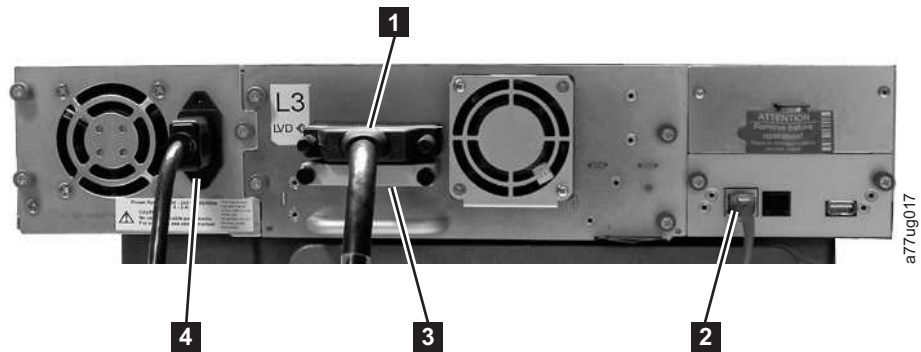
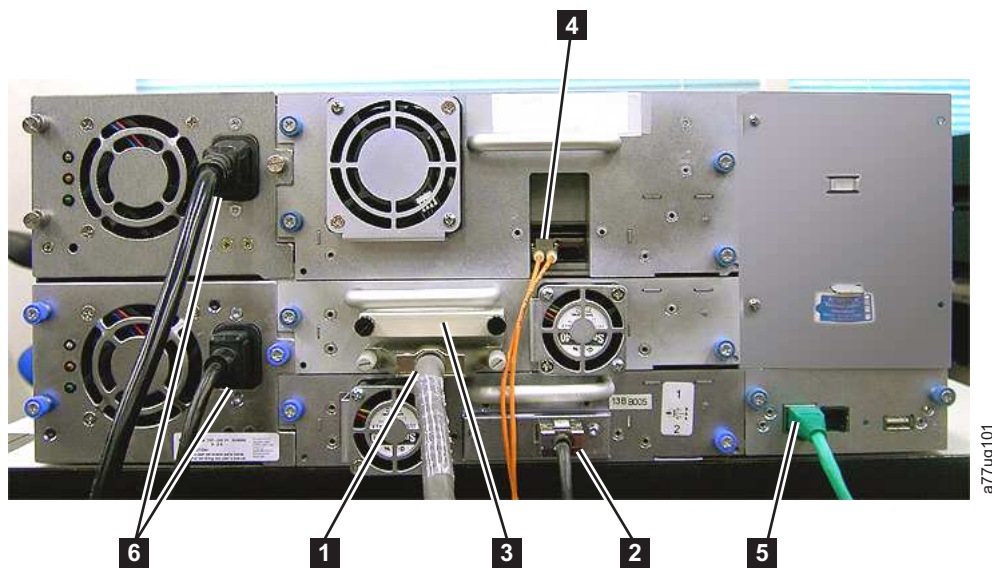
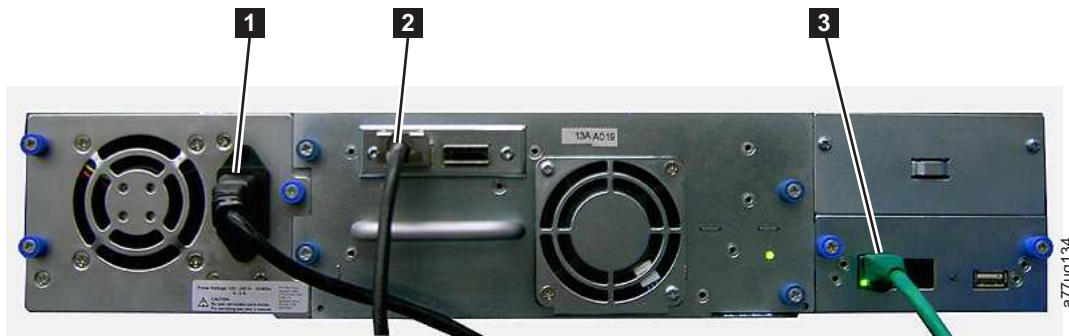

Figure 35. Attaching a SCSI host interface cable to the 2U library
Figure 36. Attaching host interface cables to the 4U library.
Figure 37. Attaching a SAS interface cable to the 2U library
2. For a SCSI library, attach one end of the host interface cable to one of the connectors on the back panel of the library (see **1** in Figure 35 on page 51). For a Fibre Channel library, attach one end of the host interface cable to the connector on the back panel of the library (see **4** in Figure 36 on page 51). For a Serial Attached SCSI (SAS) connected library, attach the host end of the SAS cable to the SAS HBA (see **2** in Figure 37 on page 51). Full height drives have dual SAS connectors. Half height drives have one SAS connector. Unused SAS
- For a SCSI library, connect the host interface cable to the connector on the SCSI host bus adapter or to the connector on the previous device on the SCSI bus. Attach the terminator (3 in Figure 35) to the remaining SCSI connector on the back panel of the library, if the library is the last or only device on the
4. Plug the network ethernet cable (**2** in Figure 35 on page 51, **5** in Figure 36 on page 51, or **3** in Figure 37 on page 51) into the ethernet port on the back panel of the library. If the ethernet connection is directly attached to a server or notebook, a crossover ethernet cable might be required.